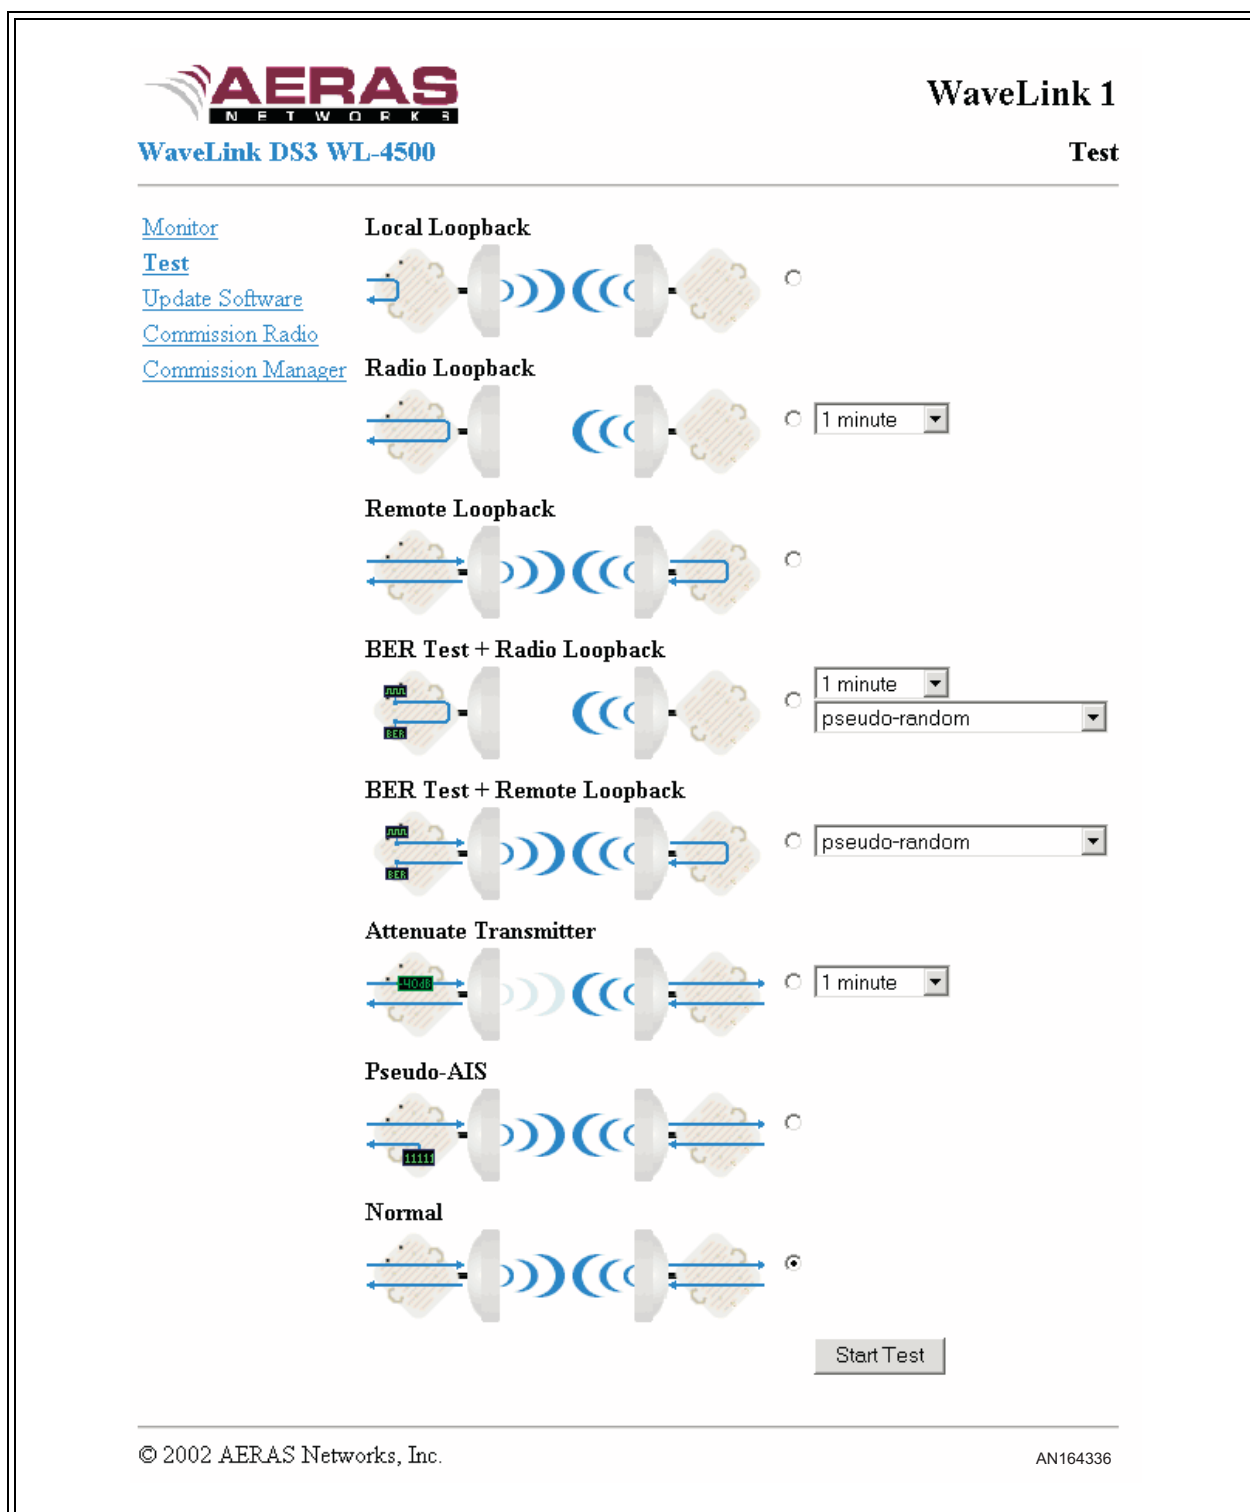

Figure 4-9 Typical Aeras WaveLink DS-3 Test Web Page
- 18** On the Commission Manager Interfaces page, select the link for the Test page. The web browser displays the Test page, similar to the sample shown in Figure 4-9.